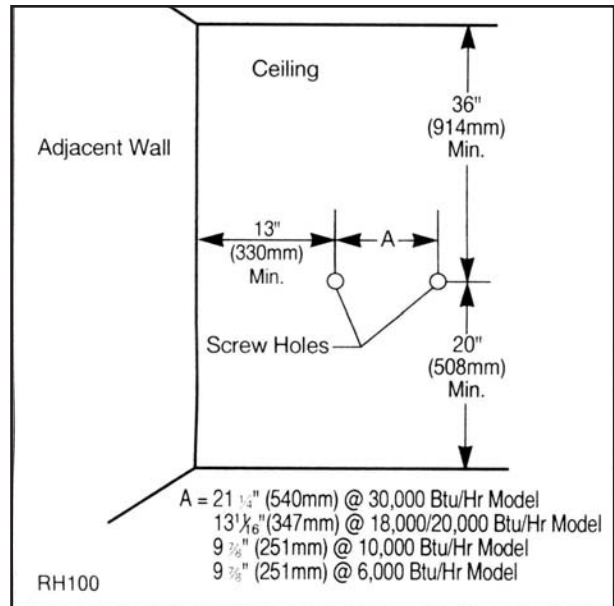

Fig. 2 Minimum clearances from mounting holes to top surface of flooring, adjacent walls and ceiling
5. Adequate clearance must be available around the air opening. Refer to Figure 2 for clearances that must be maintained to the side walls, floor and horizontal surface surrounding the heater.
1. Heater may only be installed on a noncombustible flat surface. Where the flooring is carpeting, tile or of other combustible material other than wood flooring, maintain the minimum clearances to the floor as shown in figure 2 or else use a metal or wood panel (not supplied) extending the full width and depth of the appliance.